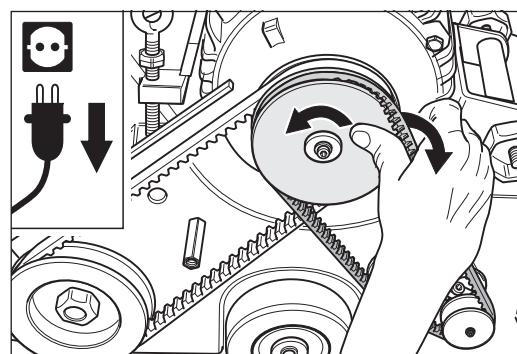

Fig. 97 Remove the suction V-belt.
- 8 Turn the motor pulley and allow the suction V-belt to run off the motor pulley (Fig. 97).